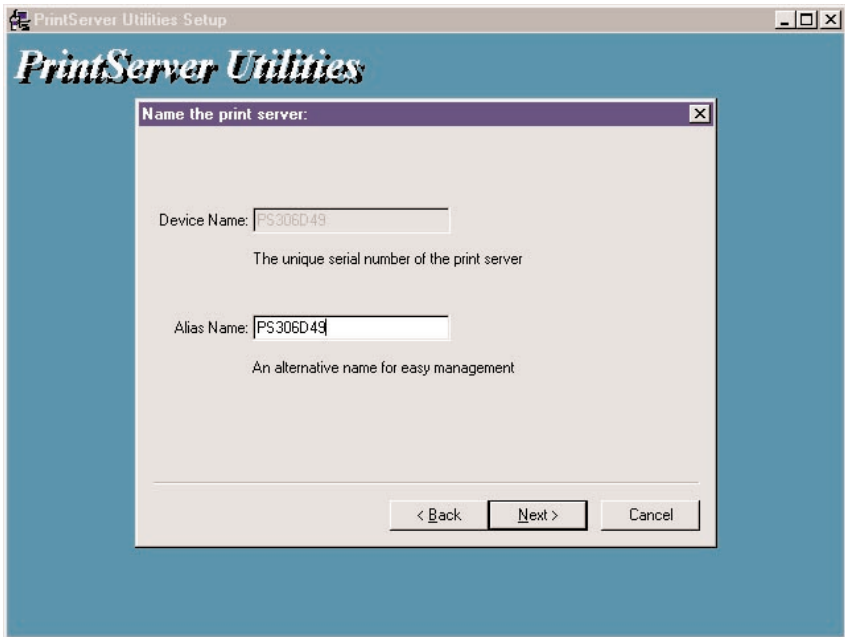

Figure 4-9. Naming the print server.
9. To refresh the screen, click on the **Refresh** button. To go back to the previous screen, click on the **Back** button. To cancel your changes, click on the **Cancel** button. Click on the appropriate print server name, then click on the **Next** button. (If this is the first time you're configuring the print server, the print server name is printed on the print server's rear panel.) Once you press **Next**, Figure 4-9 will appear.